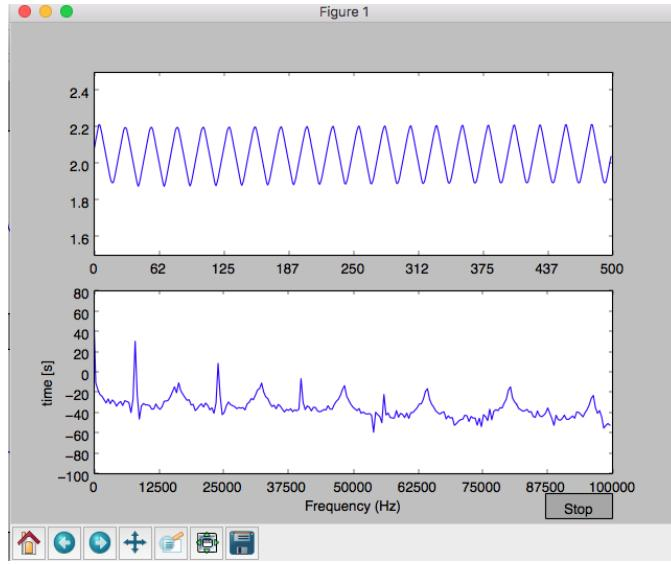

Figure 20: Screen capture of the real-time signal capture program.
- (a) If you are using the lab computer, you can run the program from the Spyder IDE that comes with the Anaconda Python distribution. If you do so, make sure that you run the program under the Python console rather than the IPython console. You could also run the program from the command line by “python realtime_ad_analysis.py”. You should expect to see a new window popping up that displays the sampled input signal and its frequency spectrum in real time (Fig. 20).